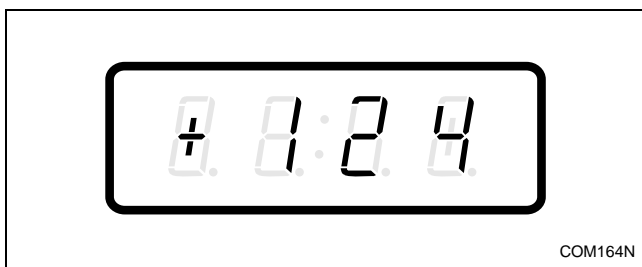

Figure 225
3. Press the DELICATES (+) or the COLD (-) keypad to scroll through the programmable options until “+124” appears in the VFD. Refer to *Figure 225*.